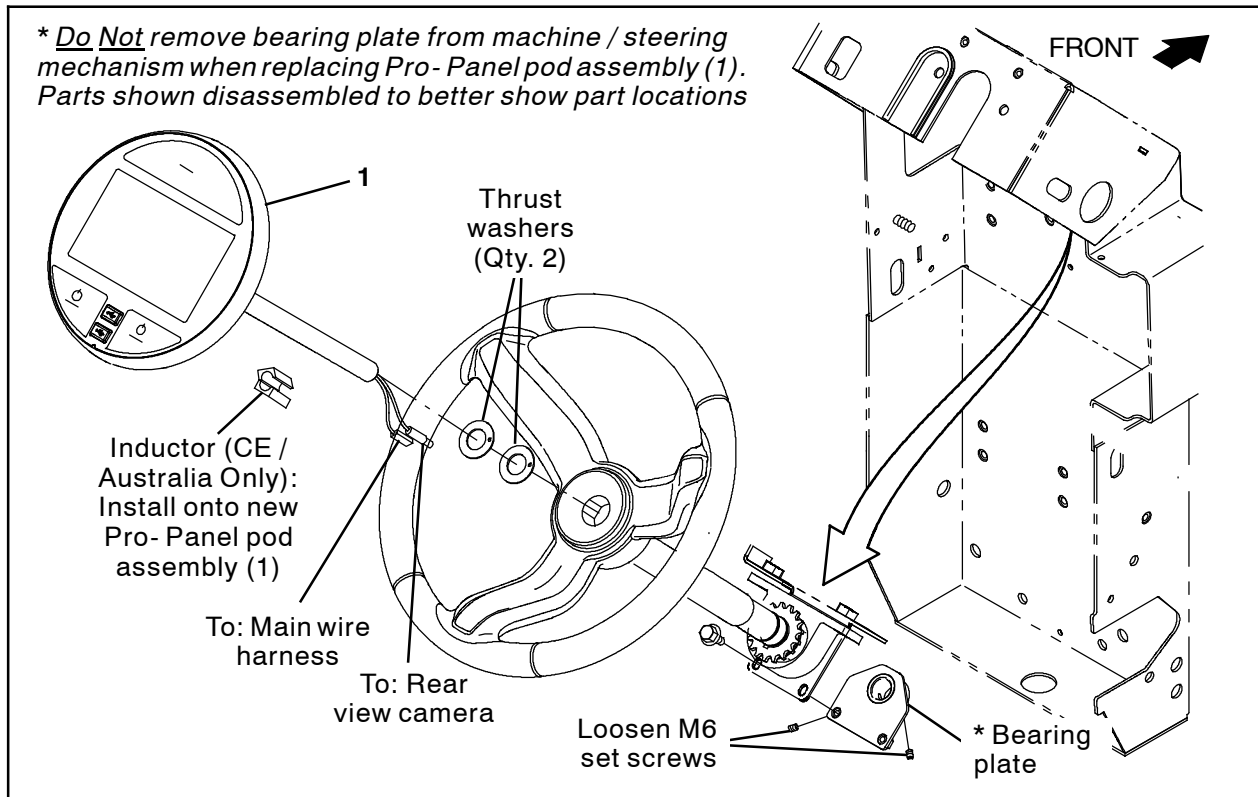
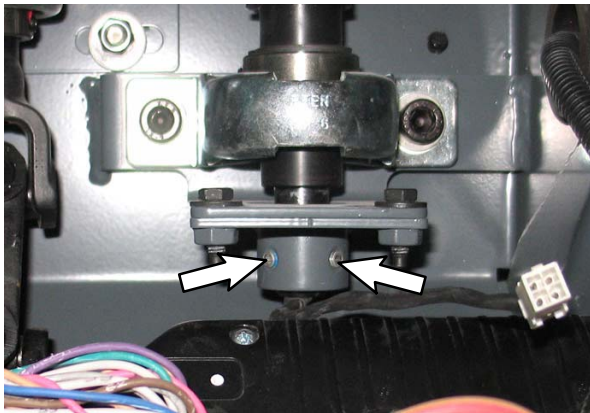

FIG. 2
FIG. 3
1. Disconnect the main wire harness and rear view camera cable from the Pro- Panel pod assembly. (Fig. 2)
2. Loosen the M6 set screws securing the Pro- Panel pod assembly in the bearing plate. (Fig. 2 / Fig. 3)
3. Pull the Pro- Panel pod assembly from the steering mechanism. (Fig. 2)
4. Remove both thrust washers from the Pro- Panel pod assembly. Set the thrust washers aside. Discard the Pro- Panel pod assembly. (Fig. 2)
5. Slide the thrust washers onto the new Pro- Panel pod assembly (1). (Fig. 2)
6. Carefully insert the Pro- Panel pod assembly (1) into the steering mechanism. **Do Not** damage cables when inserting the Pro- Panel pod into the steering mechanism. (Fig. 2)
7. Position the Pro- Panel pod assembly (1) so it is properly aligned on the steering wheel. (Fig. 2)
8. Tighten the two M6 set screws to secure the Pro- Panel pod assembly (1) inside the bearing plate. (Fig. 2 / Fig. 3)
9. Connect the main wire harness and the rear view camera cable to the Pro- Panel pod assembly (1). (Fig. 2)